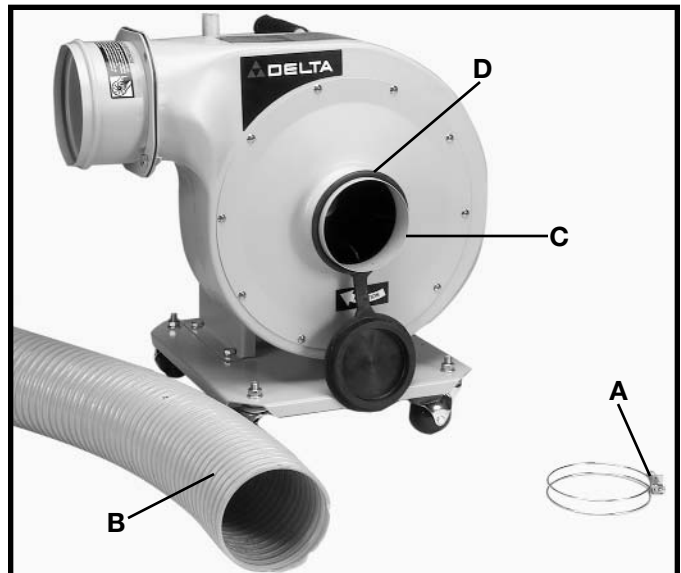
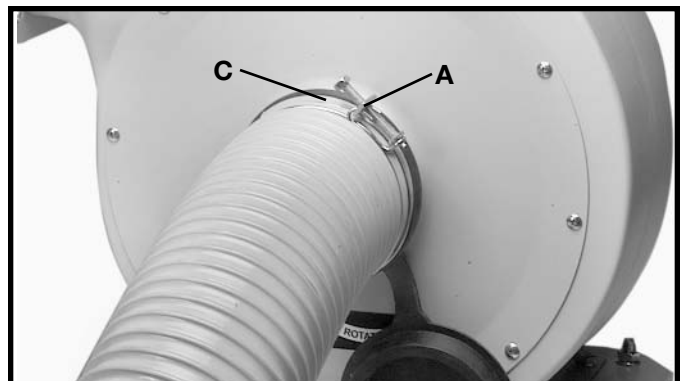

Fig. 15
Fig. 16
1. Place the intake cap holder (D) on the dust collector as shown in Fig. 15. **NOTE: DO NOT COVER THE INTAKE PORT WITH THE INTAKE CAP WHEN ATTACHING THE HOSE TO THE INTAKE PORT.**
2. Place hose clamp (A) Fig. 15, onto one end of vacuum hose (B) and slide hose around intake port (C) as shown in Fig. 16. Tighten hose clamp (A).